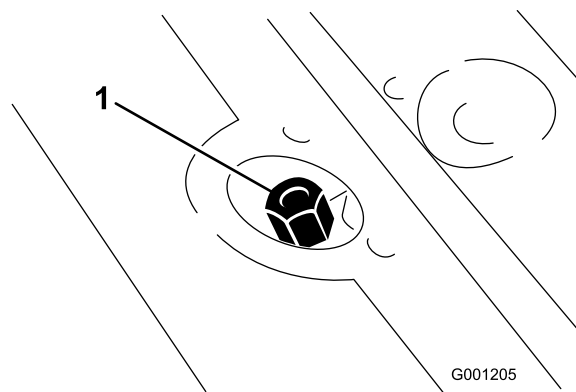

Figure 25
2. Remove dipstick cap (Figure 25) from filler neck and wipe it with a clean rag. Screw dipstick cap finger-tight onto filler neck; then remove it and check level of fluid. If level is not within 1/2 inch (13 mm) from the groove in the dipstick, add enough high quality hydraulic fluid to raise level to groove mark. Do not overfill.